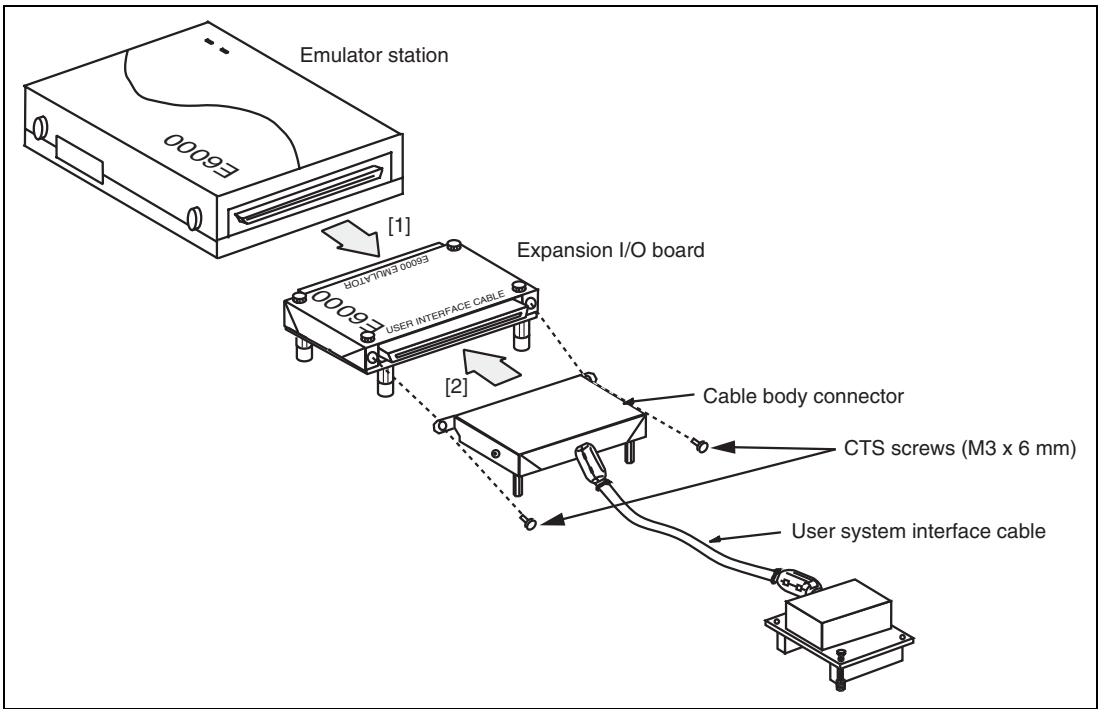

Figure 2.1 Connecting Expansion I/O Board to Emulator Station and User System Interface Cable
2. [1] After making sure the direction of the expansion I/O board connector (labeled E6000 EMULATOR) is correct, firmly insert the expansion I/O board connector into the emulator station connector (labeled USER INTERFACE; [1] in figure 2.1).